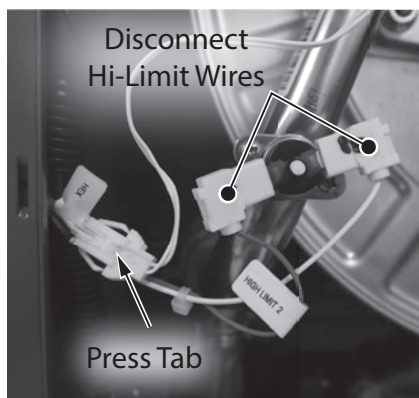

Figure 140 - Disconnect HEX outlet tube wiring
**28** Locate the hi-limit switch and thermostat wiring connected to the HEX outlet tube as shown in Figure 140. Disconnect the hi-limit wires (labeled "HI LIMIT 2") from the switch. Disconnect the thermostat wiring (labeled "HEX") by pressing on the small tab while separating the wires.